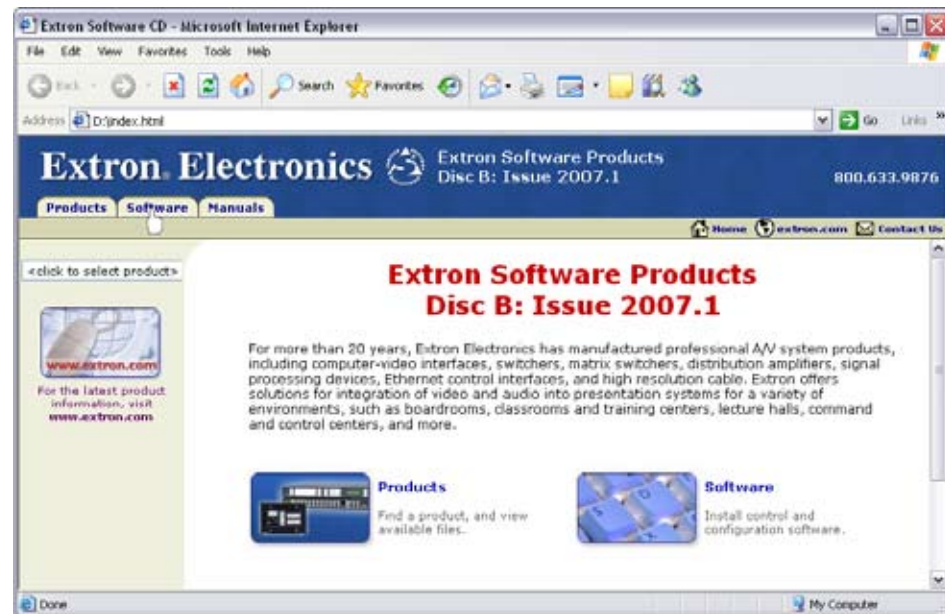

Figure 5-1 — Software disk window
The Extron software disk window appears (figure 5-1).
2. Click the Software tab (figure 5-1).